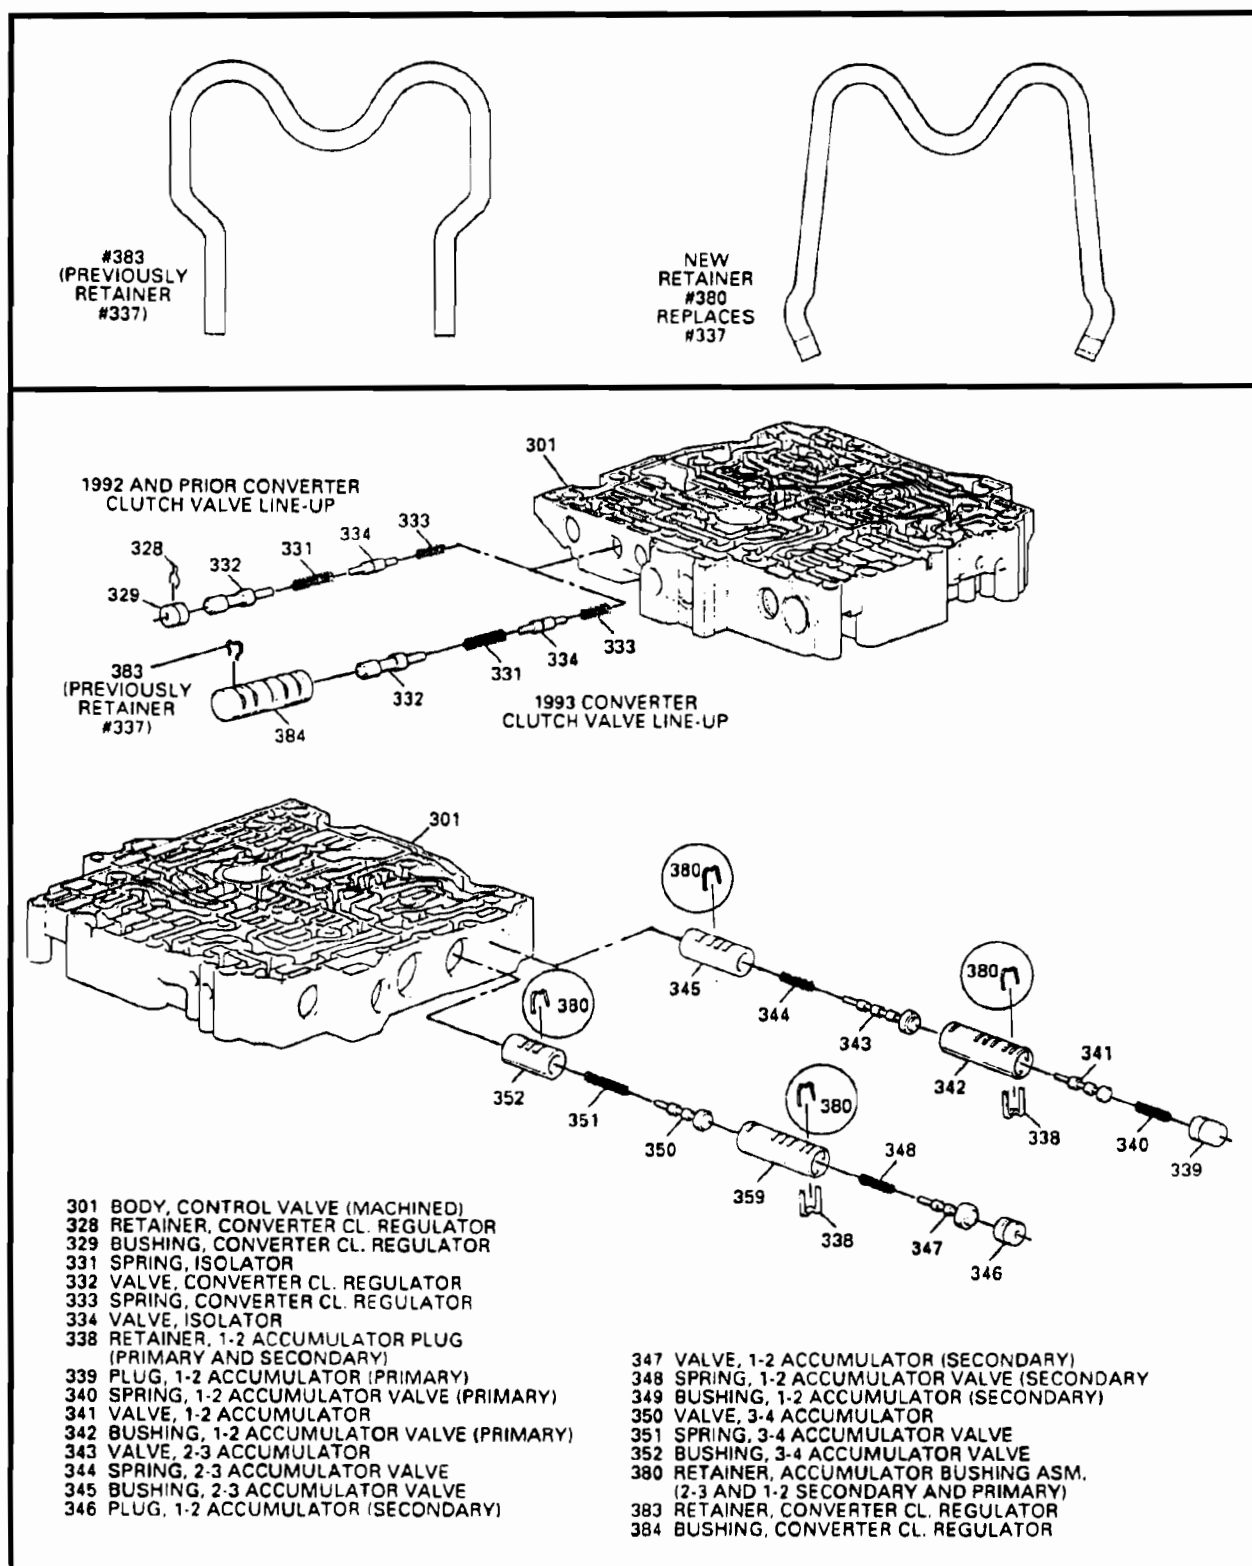

Figure 37
- (1) **VALVE BODY CASTING** - The aluminum plug and retainer clip for the converter clutch regulator valve were eliminated and replaced with a new bushing and a new style retainer. This makes it much easier to remove this line-up out of its valve body bore (See Figure 37).